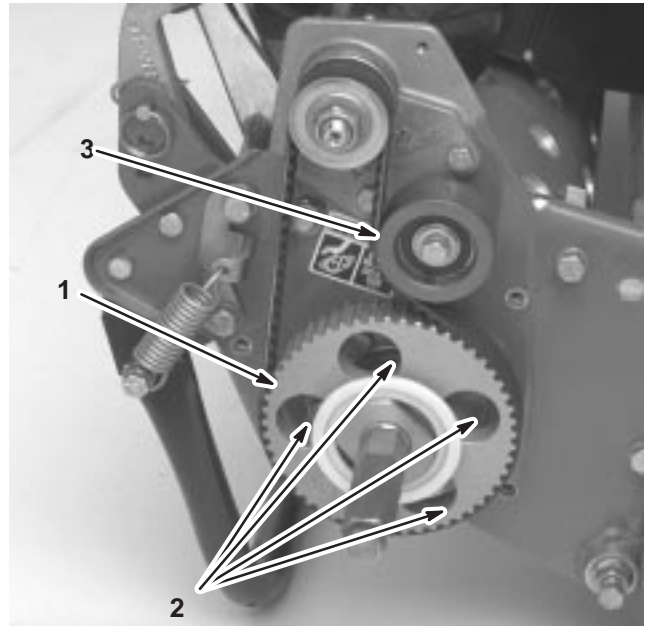

Figure 10
7. Rotate the drive pulley until the holes align with the 4 roller bearing flange screws (Fig. 10).
11. Adjust the belt tension and tighten the idler pulley mounting screw (Fig. 10).